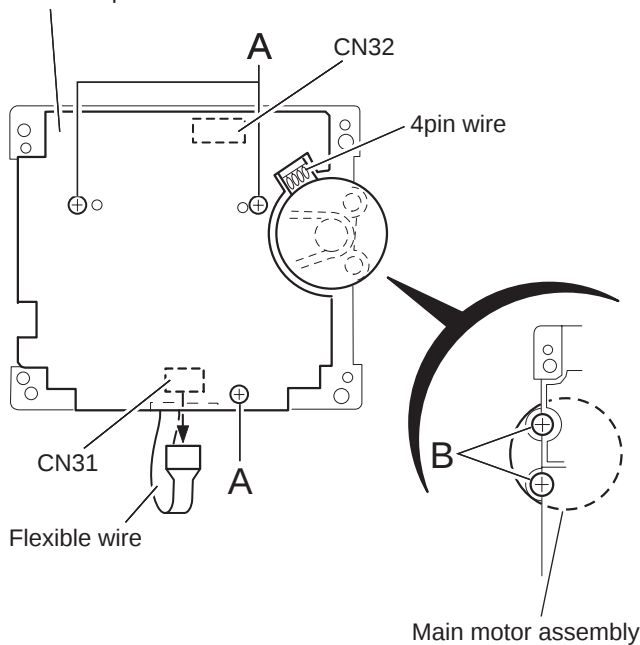

Fig.4
3.2.2 Removing the head amplifier & mechanism control board (See Fig.4)
3.2.3 Removing the main motor (See Fig.4~7)